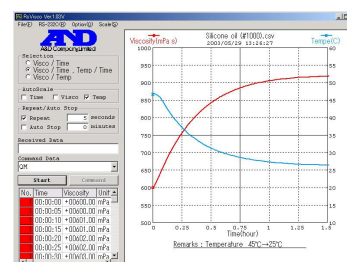

Figure 14 Real Time Display of Measured Data (WinCT-Viscosity)
11. WinCT-Viscosity, Windows Communication Tools Software, can be used with the SV Series. You can create real time graphs of data regarding viscosity and temperature as shown in Figure 14 with this software.